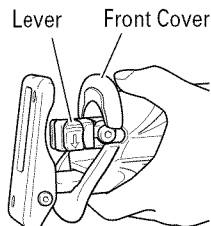

Fig. 2
- (1) Turn on and off the switching trigger several times so that the lever can jump out of the front cover completely. Thereafter, turn off the switch and unplug the power cord. (Fig. 2)
- (1) Turn on and off the switching trigger several times so that the lever can jump out of the front cover completely (Fig. 2). Thereafter, turn off the switch and unplug the power cord.
- Do not remove the front cover (refer to Fig. 2). Be sure to hold the body from the top of the front cover.